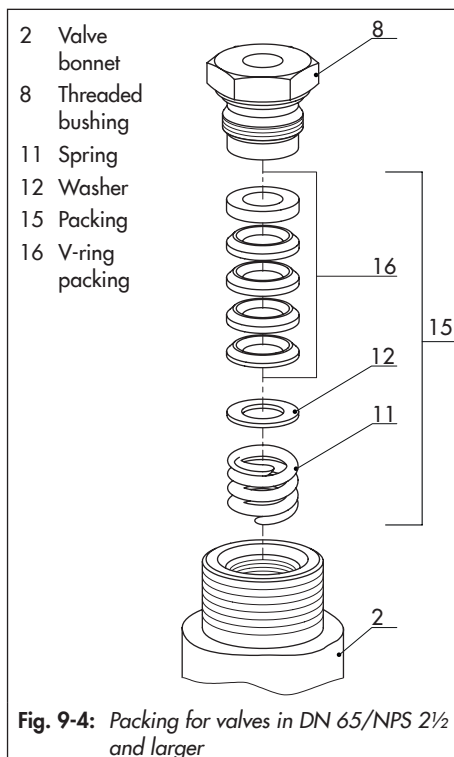

Fig. 9-4: Packing for valves in DN 65/NPS 2½ and larger
1. Unscrew the threaded bushing (8).
2. Undo the body nuts (14) gradually in a crisscross pattern.
3. Carefully lift the valve bonnet (2) off the valve body (1) over the plug stem (36).
6. Apply a suitable lubricant to all the packing parts and to the plug stem (36).
7. Carefully place the valve bonnet (2) over the plug stem (36) and the studs (13) onto the body (1). Make sure that the gasket (17) is properly seated in the body.
8. Carefully slide the packing parts over the plug stem into the packing chamber using a suitable tool. Observe the proper sequence (see Fig. 9-4).
9. Fasten the valve bonnet (2) with body nuts (14). Tighten the nuts gradually in a crisscross pattern. Observe tightening torques.
10. Apply a suitable lubricant to the thread of the threaded bushing (8). Screw in the threaded bushing and tighten it. Observe tightening torques.